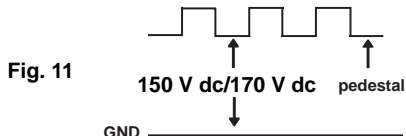

Fig. 11
3. Adjust SBRT, GCUT, BCUT in service mode with an oscilloscope as shown in Fig. 11 so that voltages on the red, green, and blue cathodes are: 170Vdc (for 20" and 21") and 150Vdc (for 13" and 14").